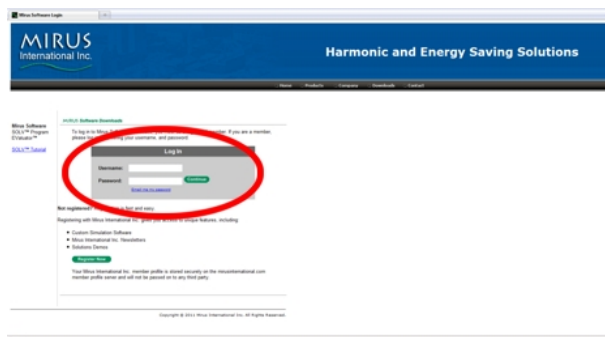

Figure 3-4: The MIRUS Software Downloads page. The red circle indicates the continue button.
4. Click **Continue** when you are finished—you will now be taken to the *MIRUS Software Downloads* page (see Figure 3-4).